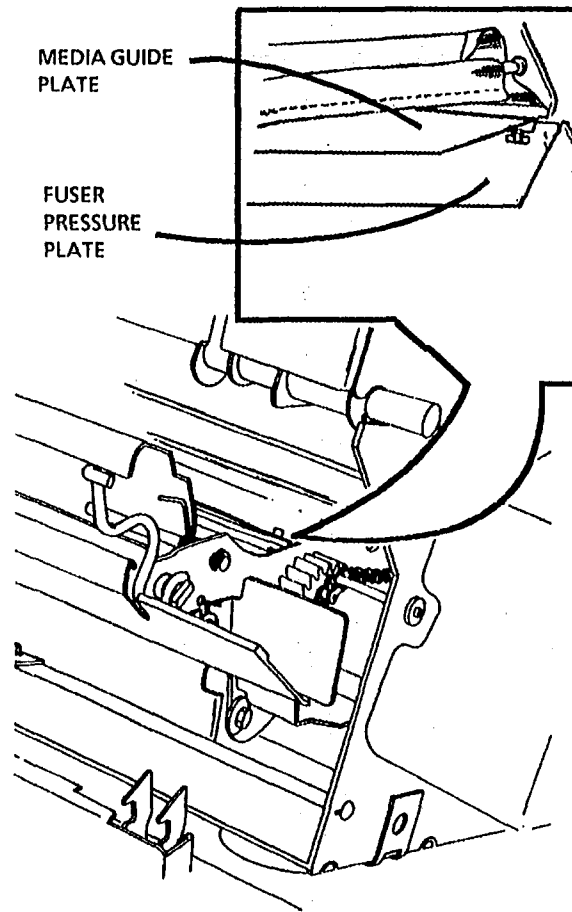

Figure 2. Location of the Media Guide Plate and the Fuser Pressure Plate
22. (Figure 2): Ensure that the fuser pressure plate and the media guide plate are located correctly.